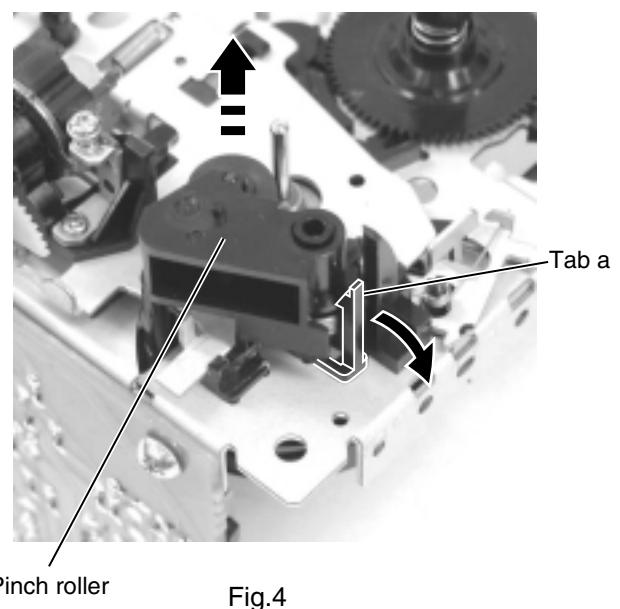

Fig.4
■ Removing the Pinch roller assembly (See Fig.4)